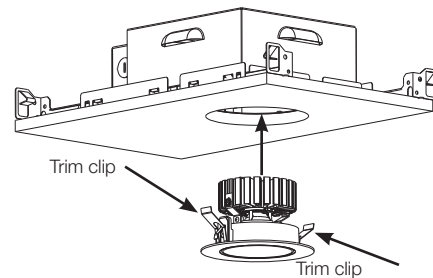

Figure 3
- Remove the wing nut(s) on the LED driver support bracket (**Figure 3**).